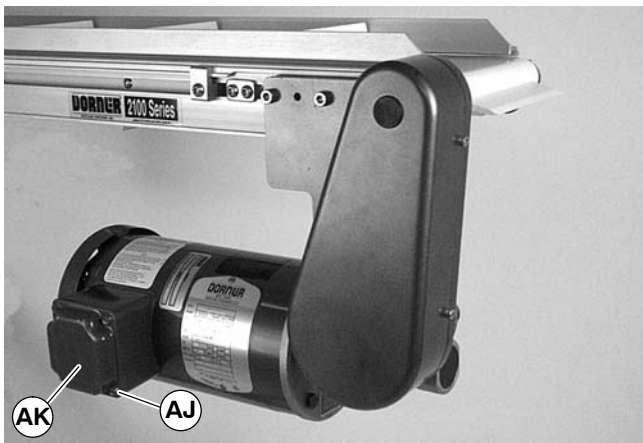

Figure 25
- a. Loosen terminal box screws (AJ of Figure 25) and remove cover (AK).